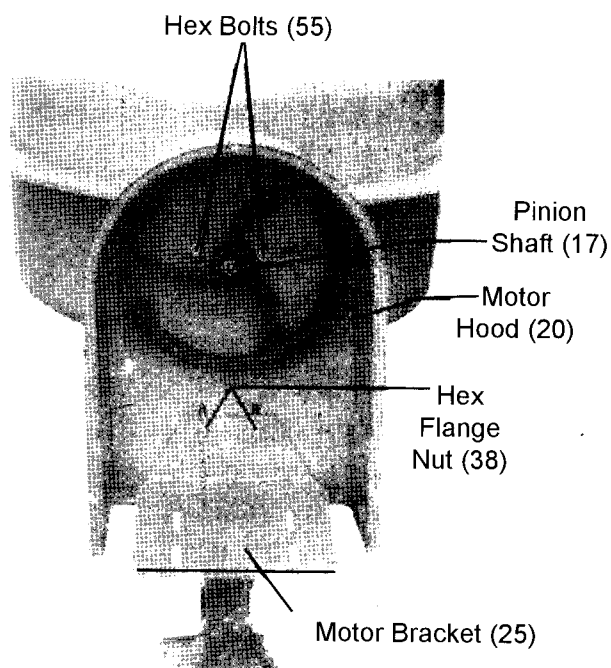

Figure 7
16. Place the Upper Drum onto the Lower Drum (3), making sure the mounting holes align in both.
17. Insert the six Screws (40) into each mounting hole. Fasten Drums together using Plastic Washers (39) and Hex Flange Nuts (38).
18. Mount each Paddle (6) inside the assembled Drum with the pointed end facing downward. The V-shaped bend in the Paddles should point in the direction of the Drum rotation (clockwise).
19. Fasten Paddle to Drums using the Hex Bolt (35), Washer (5), and Hex Flange Nut (34).
20. Use the Hex Bolt (55), Flat Washer (37), and Hex Flange Nut (34) to mount the Motor Hood (20) to the Support Bracket (10). See Figure 7.